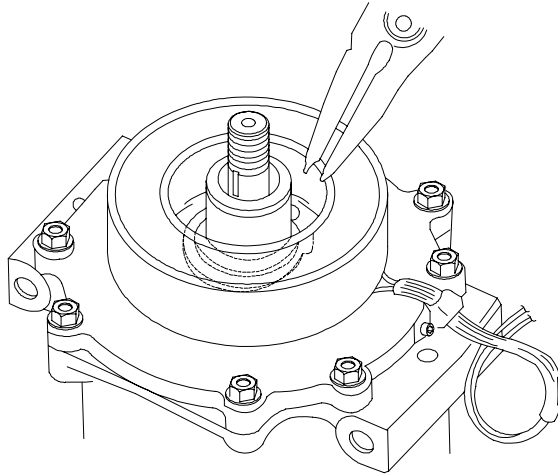
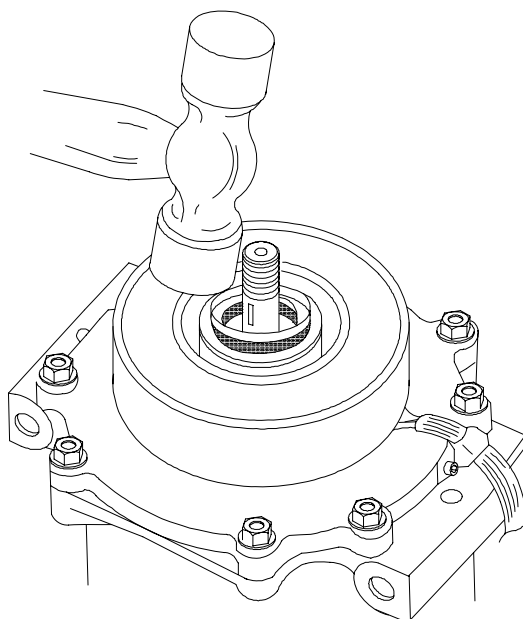

Figure 19 Felt Ring Removal
Figure 22 Felt Ring Replacement
- 49. Compressor Shaft Seal Replacement.** To replace the compressor shaft seal, proceed as follows (refer Figures 19 to Figure 22):